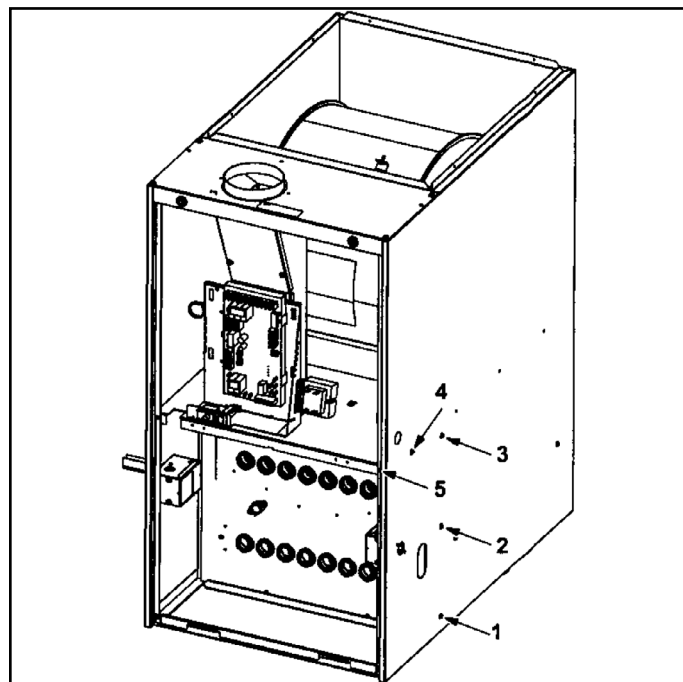

Figure 40. Remove Five Screws if Necessary (either side of cabinet)
9. Remove heat exchanger. It may be necessary to spread cabinet side to allow more room. If so, remove five screws from the left side or right side of cabinet. See Figure 40.